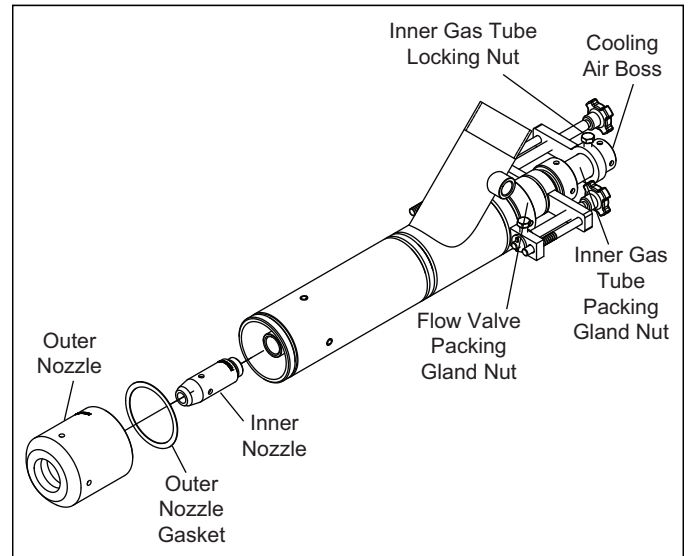

Figure 4.1.
3. Loosen the inner gas tube locking nut and packing gland nut and remove the inner gas tube. (Refer to Figure 4.1 in the Maintenance Section.)